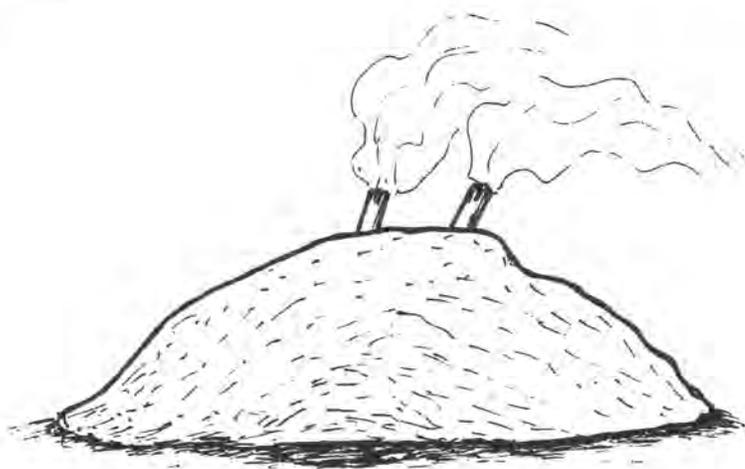

Figure 2.8: Carbonisation progressing well evidenced by the thick smoke emitted from chimneys
8. The emission of dense white smoke emitted from the chimneys indicates carbonisation is progressing well (Figure 2.8). After 3 - 4 days, the kiln will sink to about a third of the original height and the smoke becomes thin and reduced. A light blue smoke colour indicates that the charcoal has been carbonised.